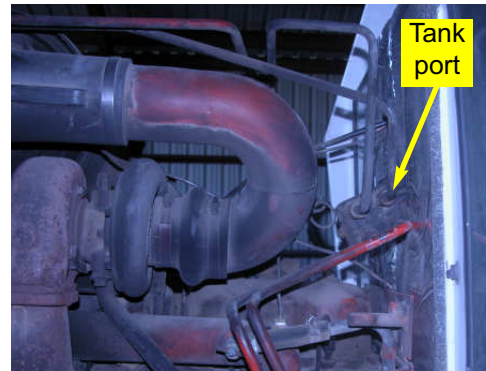

Figure 3a. Tank port location.
- a. The Automated Steering Block will receive pressure from the tank port on the steering orbital. The tank port is the upper, right port on the steering orbital. Excess flow and tank flow from the Automated Steering Block will be returned to the line previously attached at the orbital. (Figure 3a.)